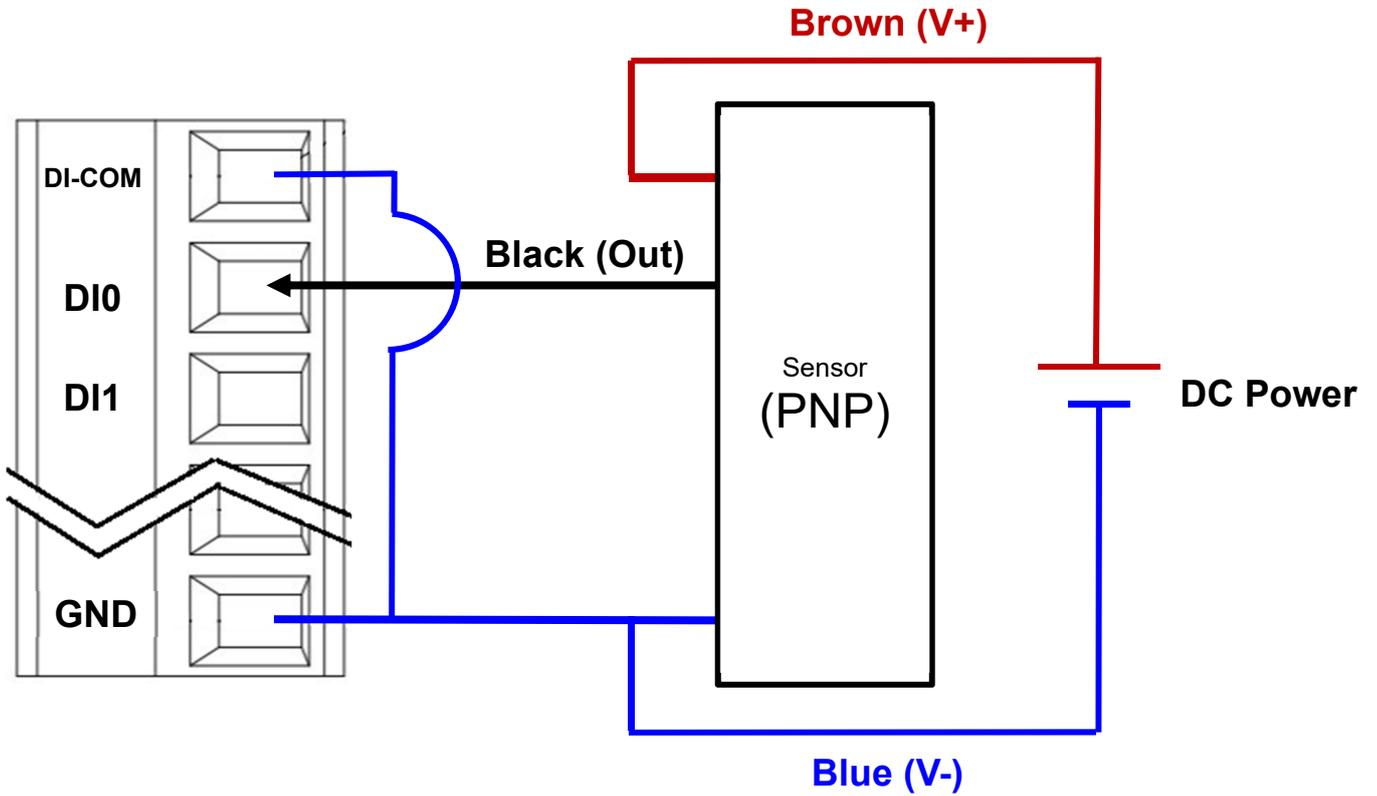

Figure 4.15 – Wiring of DI (Digital Input) Wet Contact (PNP)
Figure 4.15 shows an example of digital input (DI) wet contact (PNP) in which the digital input 0 (DI0) channel is typically connected to a 3-wire PNP sensor. Note that 3-wire PNP sensors are those industrial solid-state sensors that often have transistors inside that send or switch out digital signal as their output. The wiring of PNP sensor and external DC power supply can be shown as in Figure 4.15. The positive voltage (V+) can be the brown color, the output of the PNP sensor can be black that is connected to the digital input 0 (DI0) of the IO5202, and the ground signal of PNP sensor, DI_COM channel and GND channel on the DI port, and the negative voltage (V-) of DC power can be wired together as blue color.